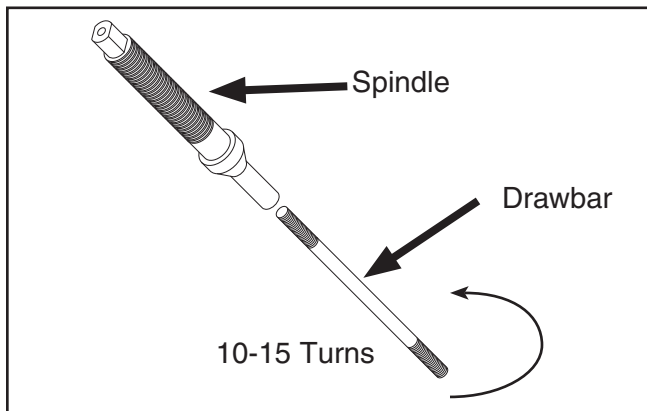

Figure 3. Spindle and drawbar.
3. Thread the drawbar approximately 10-15 turns into the bottom of the spindle. The drawbar has two threaded ends. One of them remains exposed. **See Figure 3.**